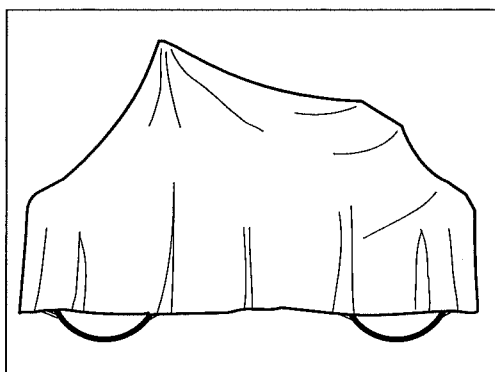

Fig. 40 Weather-protected roller
- * Lower the instrument shield on the steering column. Cover the whole machine with a tarpaulin. NOTE: The tarpaulin must hang free from the ground (see figure 40). Store the roller indoors if possible, preferably at an even temperature.